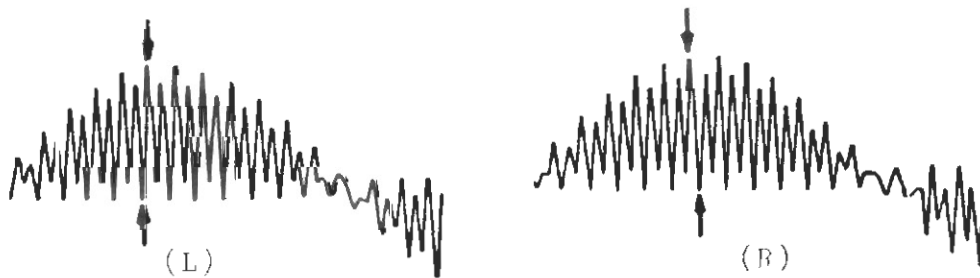

Figure-5
- c) Confirm the waveform shown in Figure-5 (L).
- e) Confirm the waveform shown in Figure-5 (R).